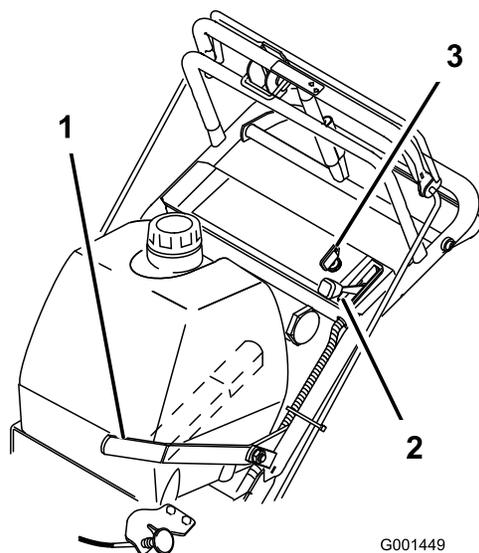

Figure 8
5. Turn the ignition key to the **run** position (Figure 8).
8. Pull the choke knob if the engine is cold (Figure 8).
1. Move the throttle lever to the **slow** position (Figure 8).
3. Turn the ignition key to **off** (Figure 8).